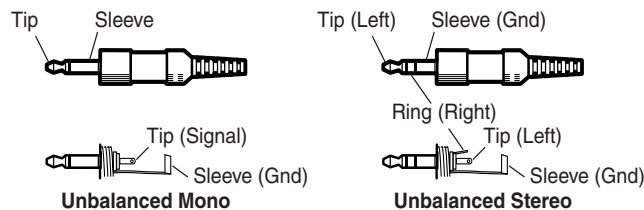
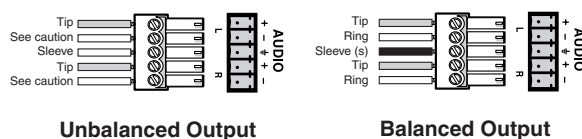

Figure 2-4 — Phono audio connectors
Figure 2-5 — Captive screw connector wiring for audio output
NOTE When making connections for the CrossPoint Plus Series Switcher from existing audio cables, see figure 2-4. A mono audio connector consists of the tip and sleeve. A stereo audio connector consists of the tip, ring and sleeve. The ring, tip, and sleeve wires are also shown on the captive screw audio connector diagrams, figure 2-3 and figure 2-5.
- ⑤ **Connections for audio outputs** — These 3.5 mm, 5-pole captive screw connectors output the selected unamplified, line level audio. Connect audio devices, such as an audio amplifier or powered speakers. See figure 2-5 to properly wire an output connector.